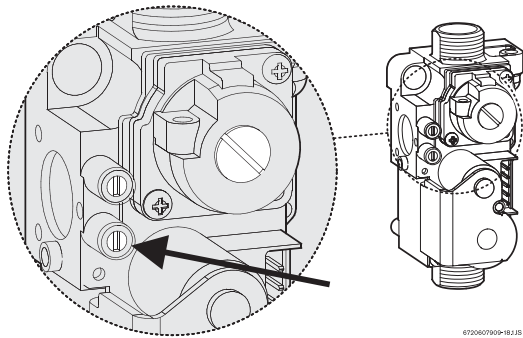

Fig. 29 Gas pressure measuring (lower tapping)
- ▶ Remove front cover and locate the inlet gas measuring point (see Fig. 29).